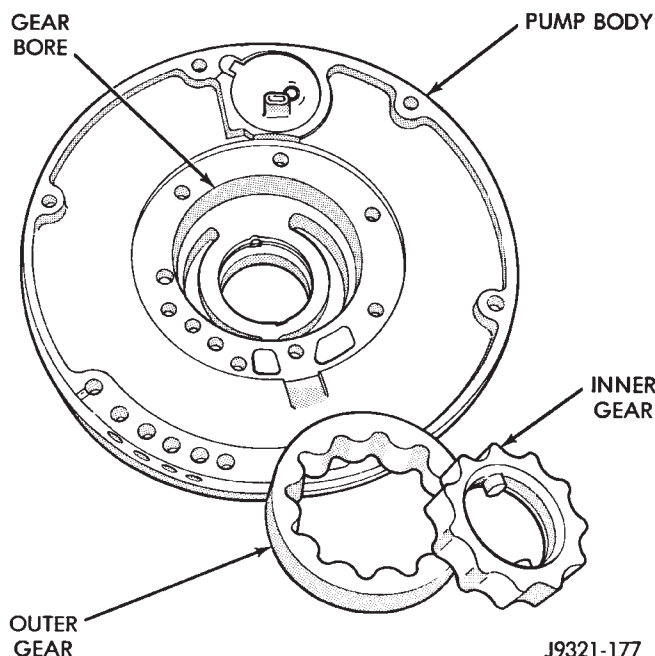

Fig. 157 Pump Gear
(4) Remove pump inner and outer gears (Fig. 157).